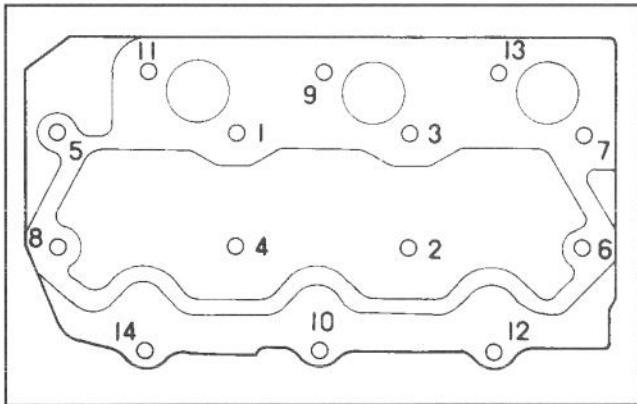

Figure 40
2. Using sequence in figure 40, torque head bolts to 36 to 38 ft/lb.